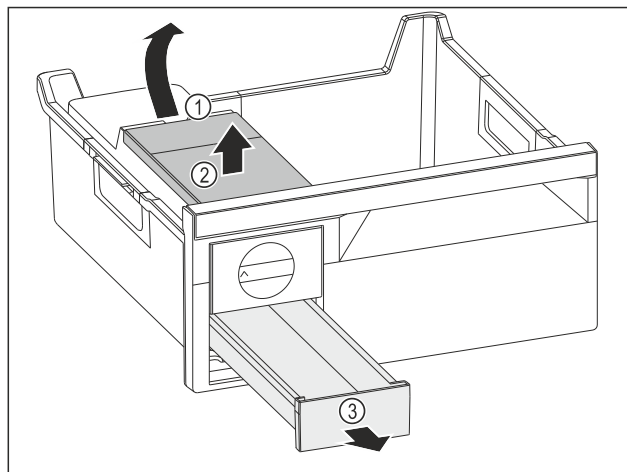

Fig. 90
- ▶ Removing the water tank: Lift the water tank at the recess Fig. 90 (1).
- ▶ Remove the water tank Fig. 90 (2) upwards.
- ▶ Remove the ice cube tray Fig. 90 (3) from the front.